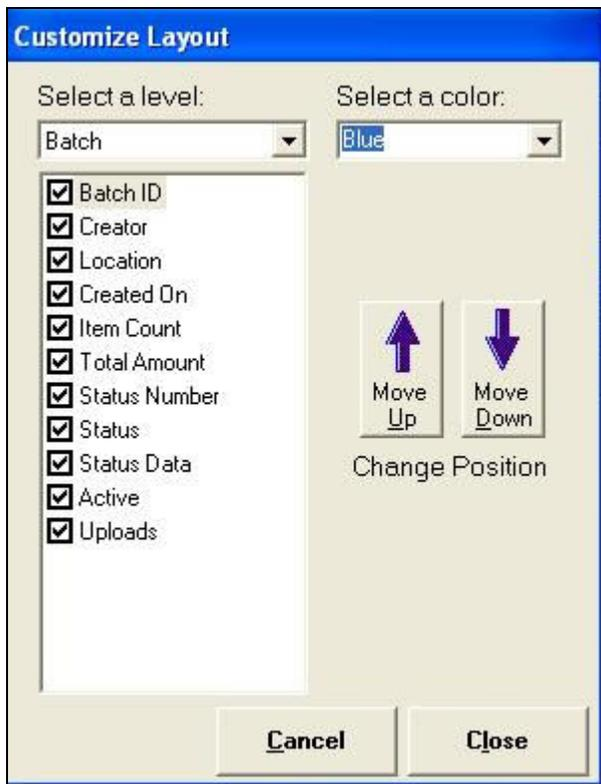

Figure 4.8
1. Click **'View'**, then click **'Layout'**. The customize Layout window is displayed (Figure 4.8).